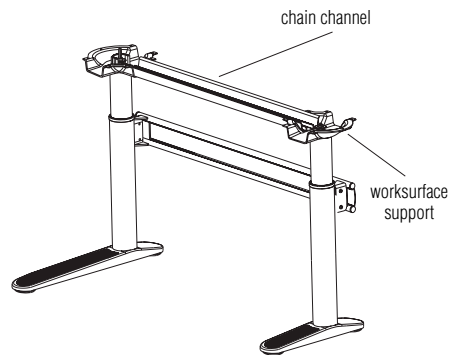

Figure 2
4. Slide the chain channel into the opening in each worksurface support (Figure 2).